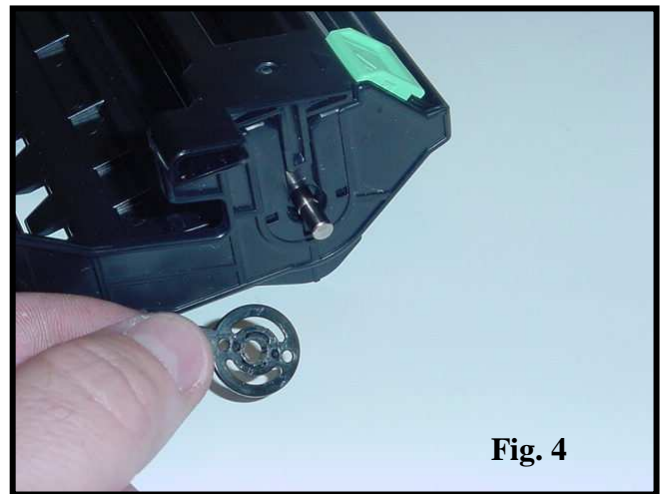

Fig. 4
4. Remove the axle stabilizer (Fig. 4).